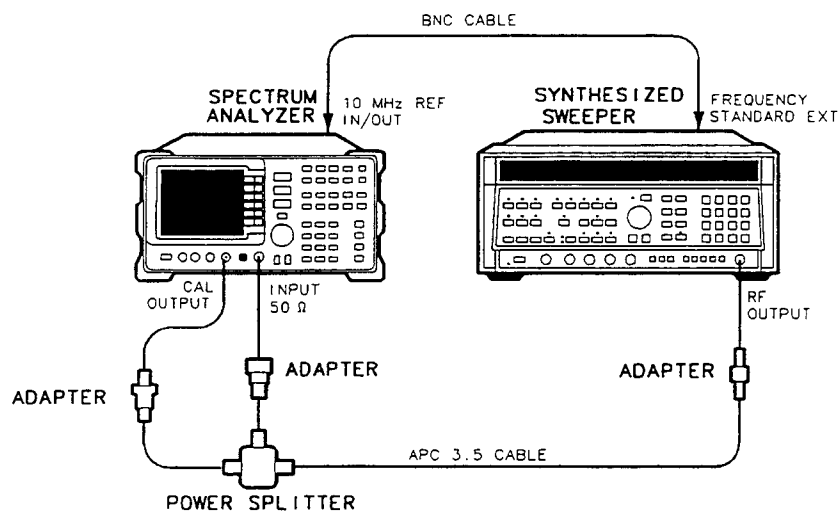

Figure 3-20. Frequency Span Accuracy Test Setup
1. Connect the equipment as shown in Figure 3-20. The spectrum analyzer provides the frequency reference for the synthesized sweeper.